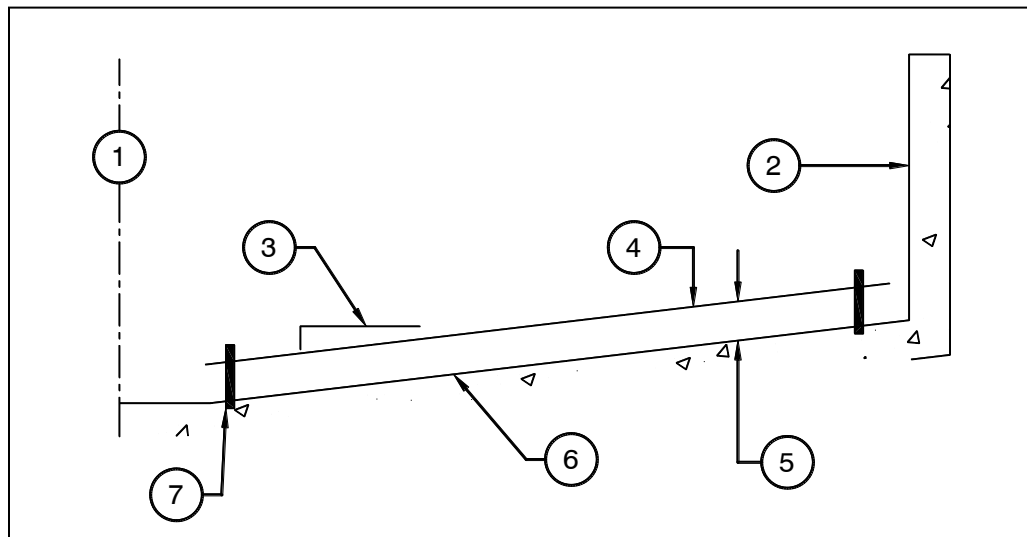

Figure 2.21a
- a. Refer to the Reference drawing for the specified elevation of grout. Then, using a surveyor's instrument, mark the elevation on bolts or posts secured to the tank bottom radially from center of the tank, referring to Figure 2.21a.